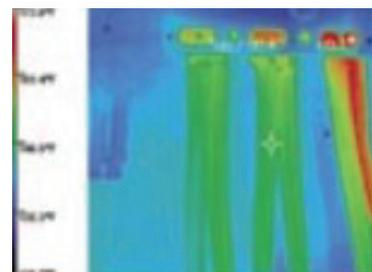

Fig.2
2. Recognizing asymmetry and overloads (Fig. 2)